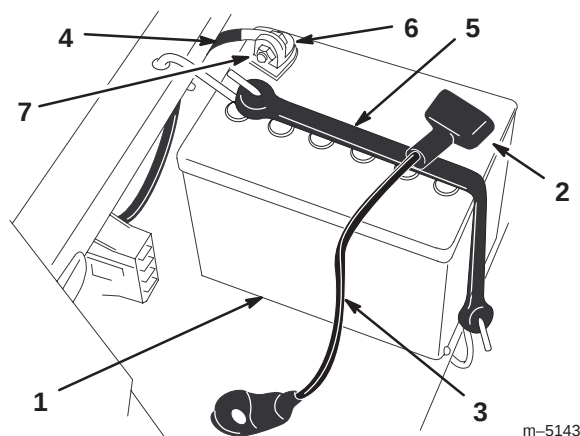

Figure 31
3. Disconnect the negative (black) ground cable from the battery post (Fig. 31).
- Slide the rubber cover up the positive (red) cable. Disconnect the positive (red) cable from the battery post (Fig. 31).
- Remove the battery hold-down (Fig. 31) and lift the battery from the battery tray.
- Position the battery in the tray with the terminal posts away from the control panel (Fig. 31).
- Secure the cables with 2 bolts (1/4 x 3/4 in.), washers (1/4 in.), and nuts (1/4 in.) (Fig. 31).
- Secure the battery with the hold-down (Fig. 31).